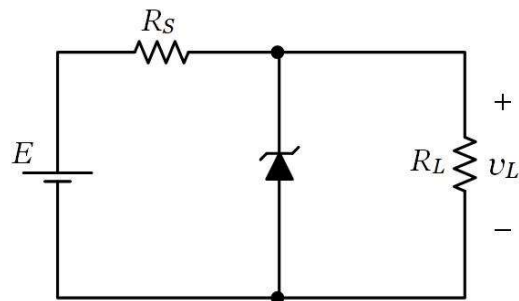

Figure 2.3. Zener voltage regulator.
10. Construct the circuit shown in Figure 2.3. Use $R = 240\Omega$ and $R_L = 1\text{k}\Omega$.